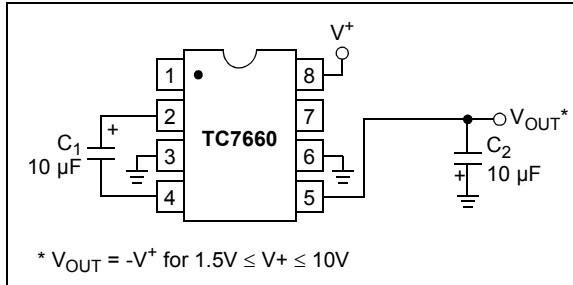

FIGURE 5-1: Simple Negative Converter.
Figure 5-1 shows typical connections to provide a negative supply where a positive supply is available. A similar scheme may be employed for supply voltages anywhere in the operating range of +1.5V to +10V, keeping in mind that pin 6 (LV) is tied to the supply negative (GND) only for supply voltages below 3.5V.
The output characteristics of the circuit in Figure 5-1 are those of a nearly ideal voltage source in series with a 70Ω resistor. Thus, for a load current of -10 mA and a supply voltage of +5V, the output voltage would be -4.3V.